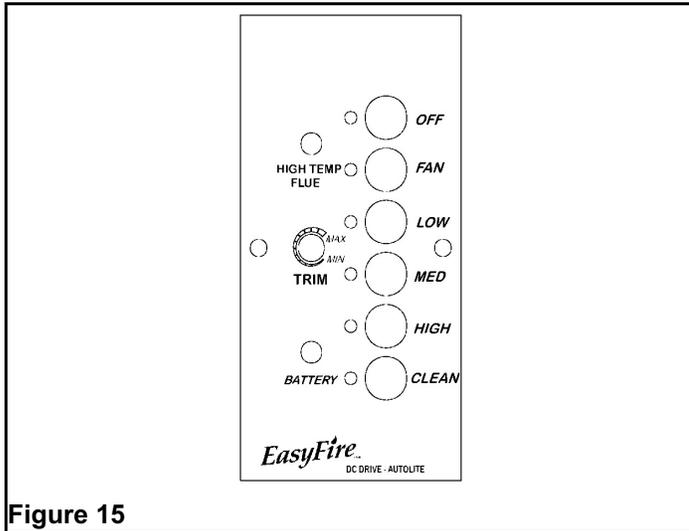

Figure 15
- C. In the **MEDIUM** position the EASYFIRE will be feeding approximately three (3) pounds of pellets per hour and the flame will fluctuate between 3" and 8" of fire.
3. Starting the Stove: Push a Heat Range button (Low or Medium is best for start up) (Figure 15) and turn the thermostat up to "Call for heat". The stove fan will begin to operate along with the ignitor cycle. After about a minute the pellets will begin to fall in the burn pot. After five minutes there will be a fire in the burn pot and the stove will begin to heat up. When the stove reaches start up operating temperature it will then switch to the control panel setting and begin it's automatic operation cycle.